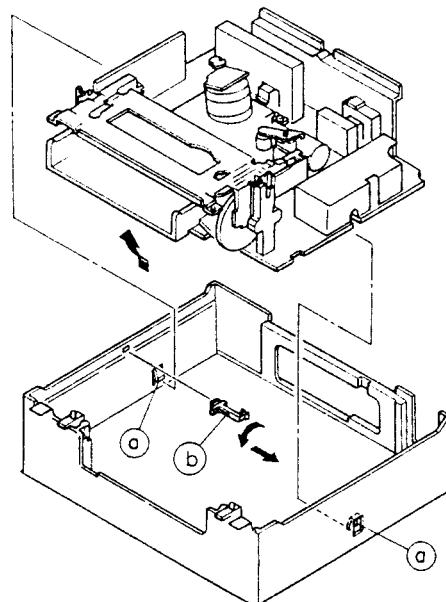

Fig. 1-2-2
4. Remove the mechanism assembly (including cassette housing assembly) and main board assembly out of the chassis as show in Fig. 1-2-2.